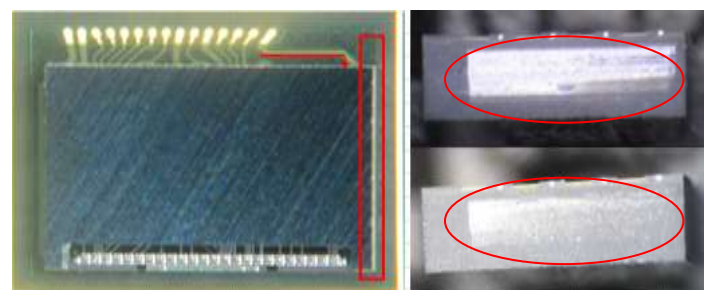

Fig. 4. Exposed die due to misaligned die placement.
- The issue would eventually result to exposed die upon package singulation of units in Fig. 4